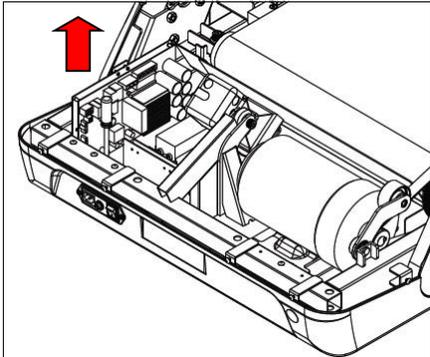

Figure 4.2.2
4.2.2 Remove the lower controller by removing the controller-related line and using the cross screwdriver to remove the controller as shown in Figure 4.2.2.